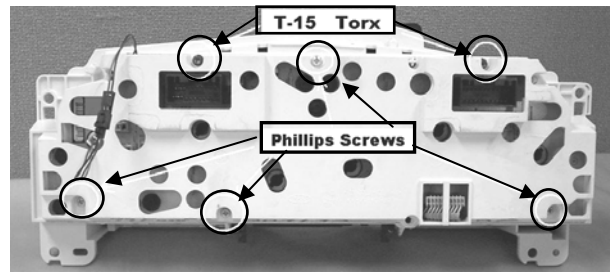

Figure 13
13. Install the included two T-15 and the four Phillips screws through the cover and into the Instrument module. Do **NOT** over-tighten the four Phillips screws (See figure 13).